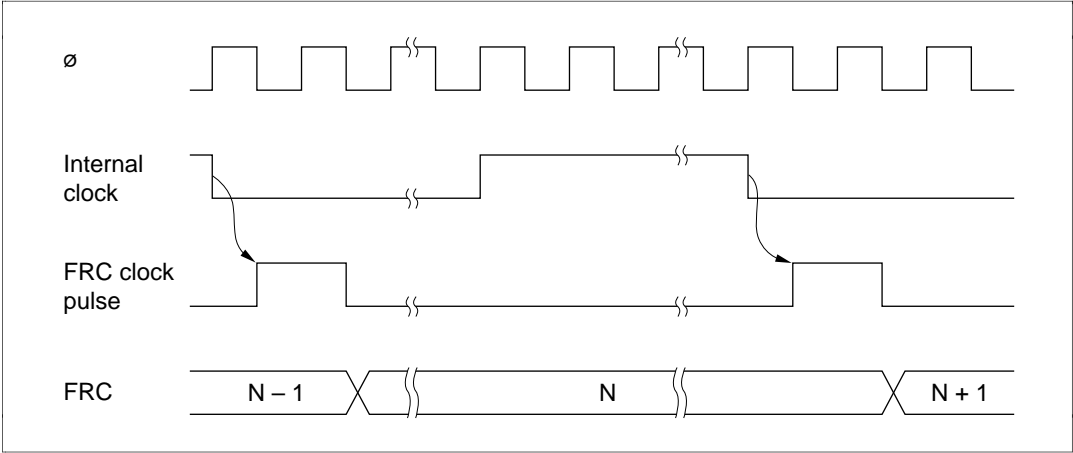

Figure 9-3 Increment Timing for Internal Clock Source
(1) Internal Clock Sources: Can be selected by the CKS1 and CKS0 bits in TCR. Internal clock sources are created by dividing the system clock (ϕ). Three internal clock sources are available: $\phi_p/2$, $\phi_p/8$, and $\phi_p/32$. Figure 9-3 shows the increment timing.